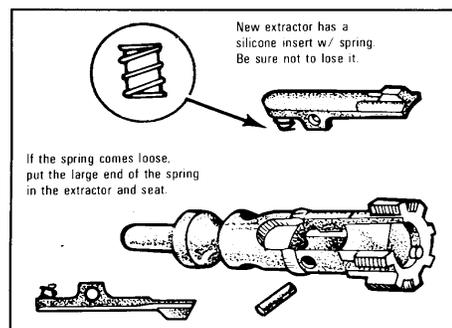

Figure 10-25. Placing the Extractor and Spring
- b. Insert the extractor and spring (figure 10-25).